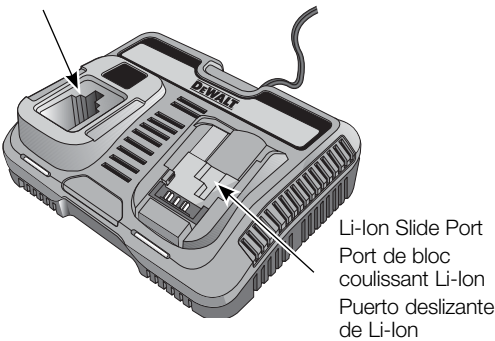

FIG. 2
Charging Procedure (Fig. 2)
2. Insert the battery pack into the correct charger port, as shown in Figure 2, making sure the pack is fully seated in the charger. The red (charging) light will blink continuously indicating that the charging process has started.